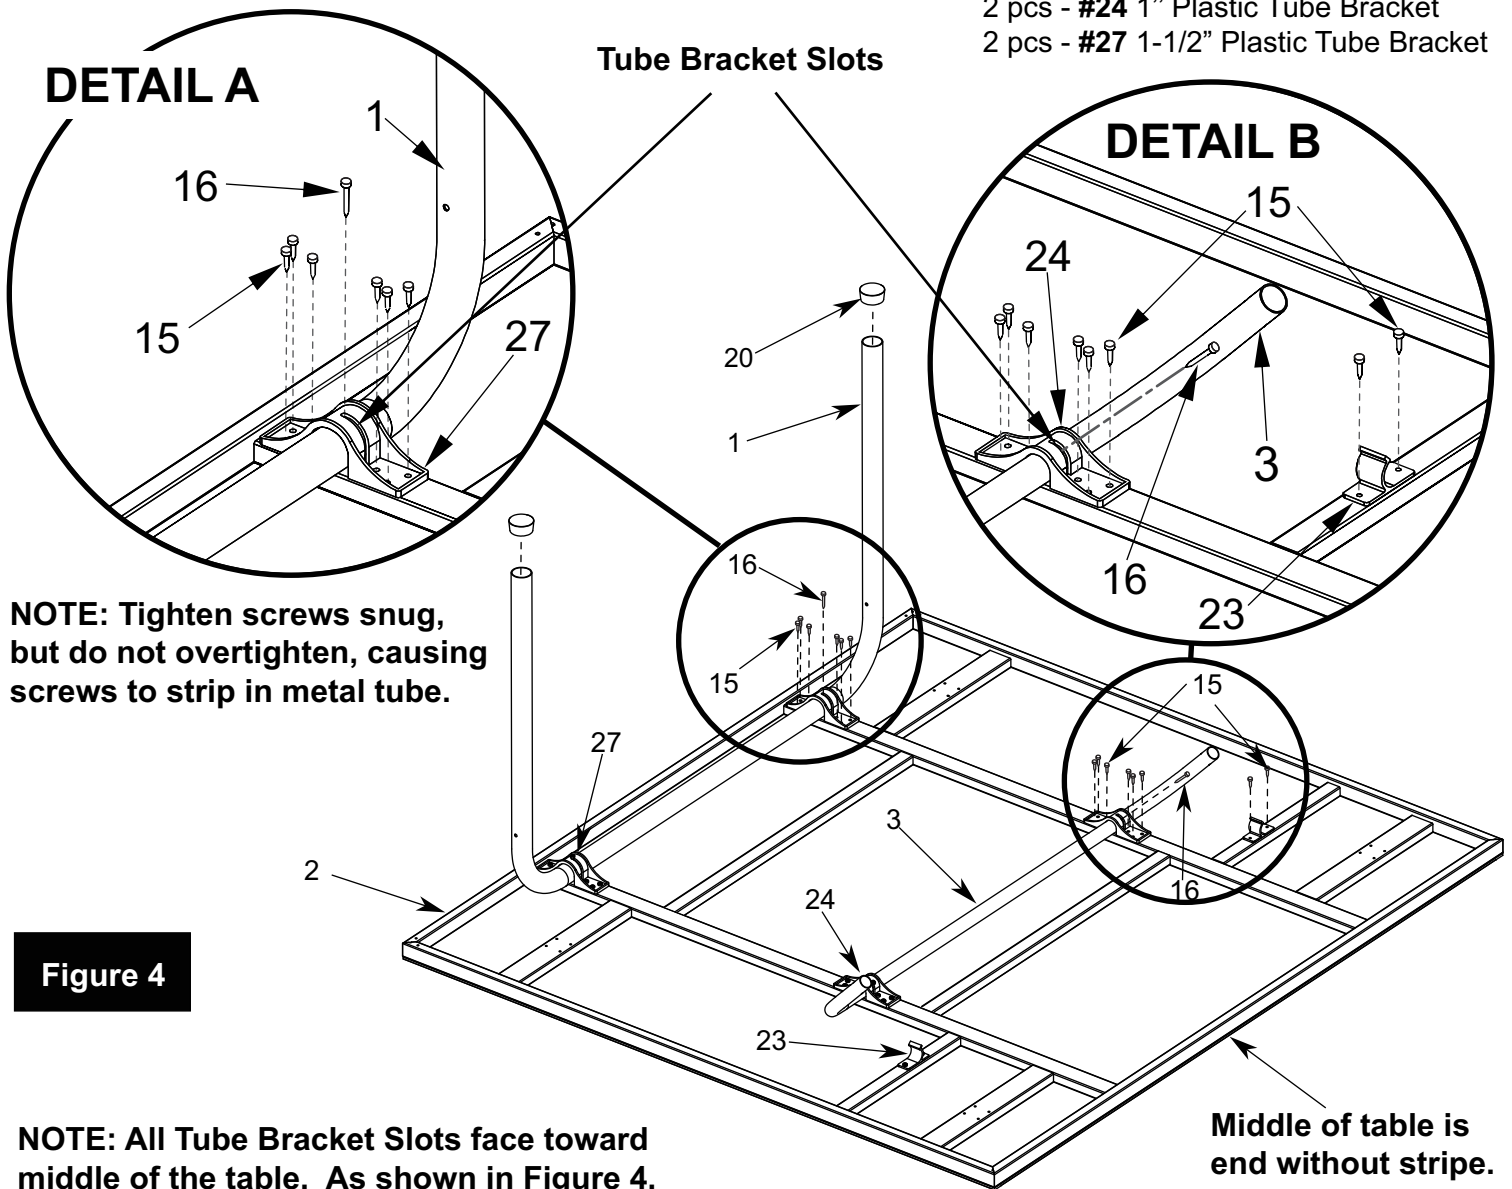

Figure 4
4. **A)** Attach two 1" Plastic Clips (#23) to bottom of aluminum top assembly using four Screws (#15) as shown in **FIGURE 4** and **DETAIL B**.
- B)** Attach U-Leg (#1) with two 1-1/2" Plastic Tube Brackets (#27) as shown in **FIGURE 4** and **DETAIL A**. Attach with twelve Screws (#15). **CAUTION: Slots in Plastic Tube Brackets (#27) must face toward middle of table exactly as shown or the table will not operate properly.**
NOTE: All Tube Bracket Slots face toward middle of the table. As shown in Figure 4.